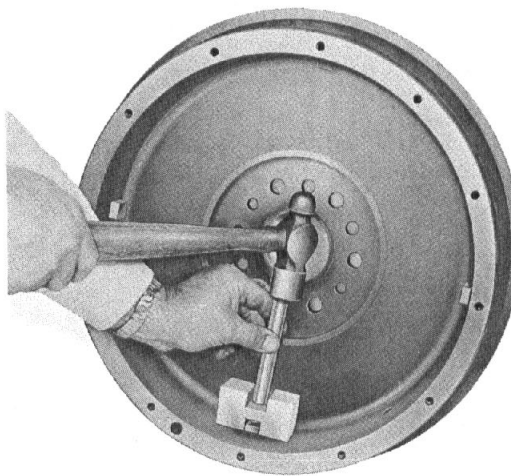
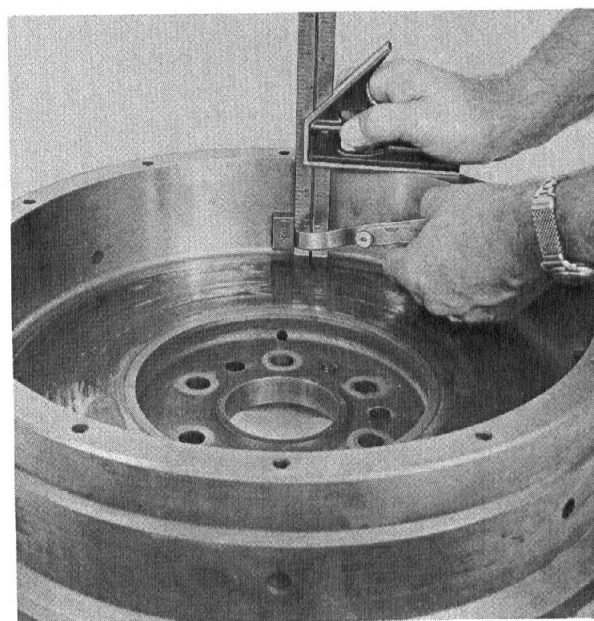

Fig. 13 - Aligning Drive Pins in Flywheel Using Lipe Tool T-10670.
Fig. 14 - Aligning Drive Pins in Flywheel Using Machinist Square and Feeler Gauge.
2. The driving pins should be installed in the engine flywheel (press fit) and squarely aligned with the friction face of the flywheel. It is recommended that tool T-10670 Fig. 13 be used. If this tool is not available, place a machinist square firmly against the rim of the flywheel and make sure the contact face of the driving pins have even contact with the square Fig. 14. **NOTE:** Tool #T-10670A is not suitable for Type TC drive pins.